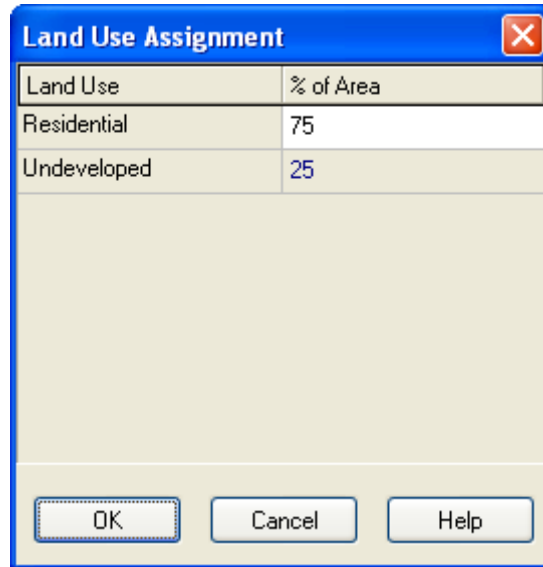

Figure 2-20. Land Use Assignment dialog.
3. In the Land Use Assignment dialog that appears, enter 75 for the % Residential and 25 for the % Undeveloped (see Figure 2-20). Then click the **OK** button to close the dialog.